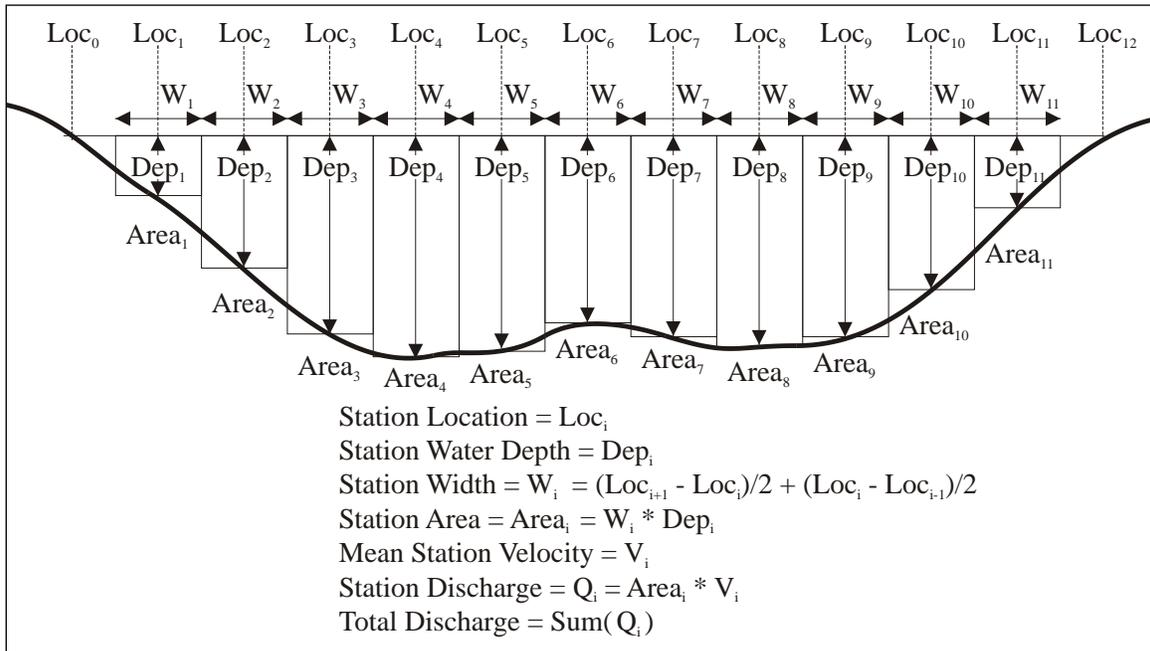

Figure 128. Mid-section Method for Discharge Measurement
- At the end of the averaging time for the measurement, the discharge is calculated using the formula shown in Figure 128.